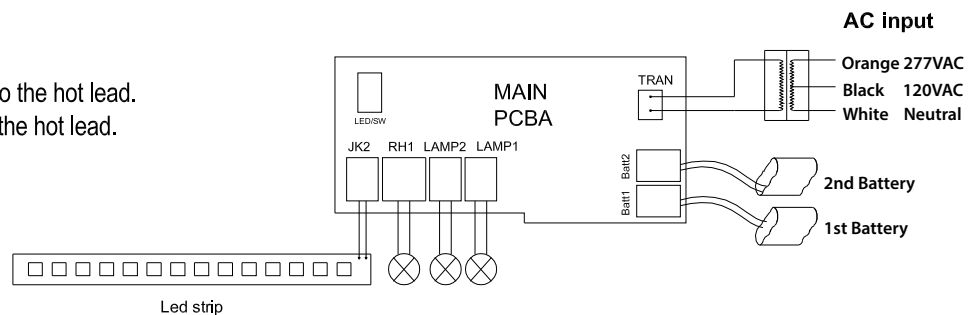

Fig 1
### WIRING DIAGRAM (SEE FIG 1)
5. Make proper electrical connections. If using 120VAC, connect black and white leads to the building utility. If using 277VAC, connect orange and white leads to the building utility. Cap off unused wire. (see Fig 1)